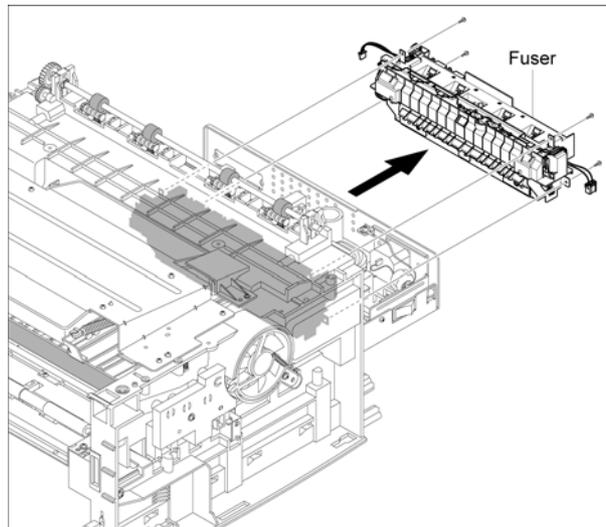

Figure 2
3. Remove 4 screws, then the fuser, Figure 2.